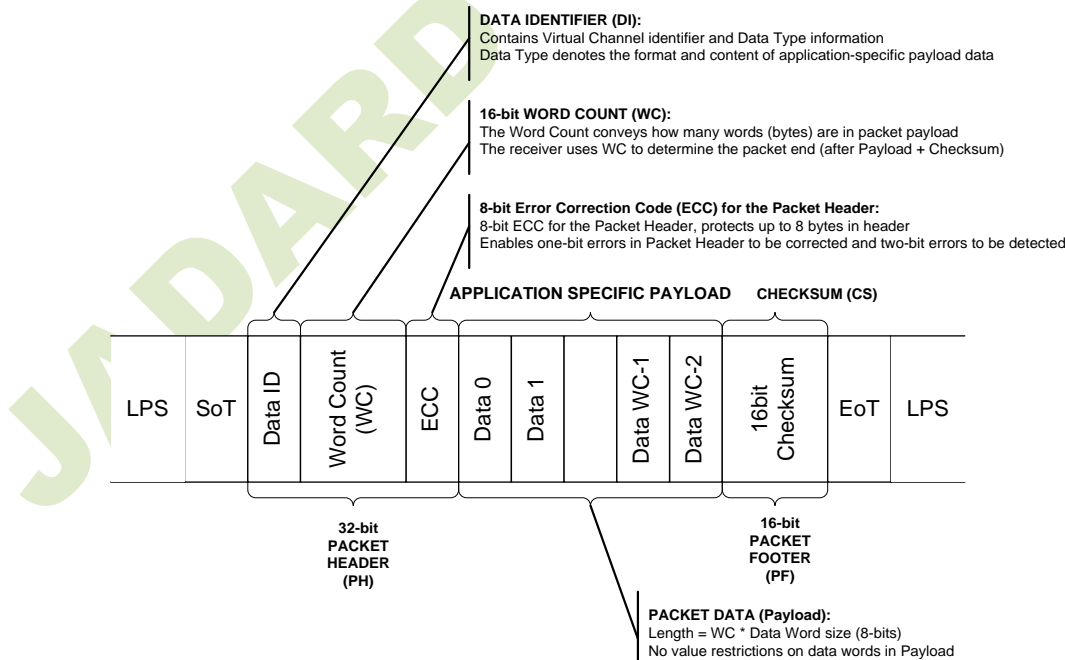

Figure. 7.30 Long Packet Structure
Figure. 7.30 shows the structure of the Long packet. A Long packet shall consist of three elements: a 32-bit Packet Header (PH), an application-specific Data Payload with a variable number of bytes, and a 16-bit Packet Footer (PF). The Packet Header is further composed of three elements: an 8-bit Data Identifier, a 16-bit Word Count, and 8-bit ECC. The Packet Footer has one element, a 16-bit checksum. Long packets can be from 6 to 65,541 bytes in length.